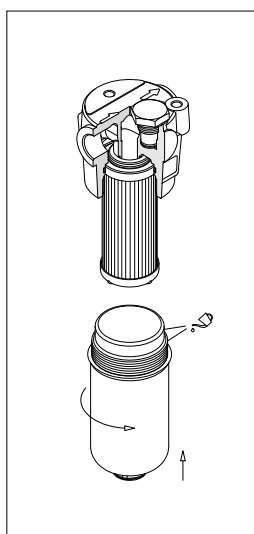

fig. 21
- (Fig. 21) Lubricate the thread of the bowl, then screw the bowl in referring to the tightening torque table in paragraph 3